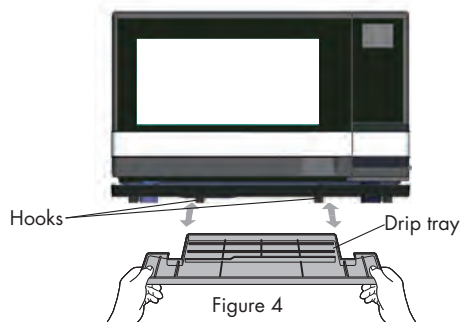

Figure 4
The drip tray is packed with the oven. Place the drip tray under the oven door as shown in Figure 4. This drip tray collects the condensation from the oven door.
**To replace the drip tray:** Place the drip tray onto the right and left hooks under the oven and push firmly as shown in Figure 4. Insert the drip tray horizontally when you attach it. Improper use may cause the damage to the hooks.